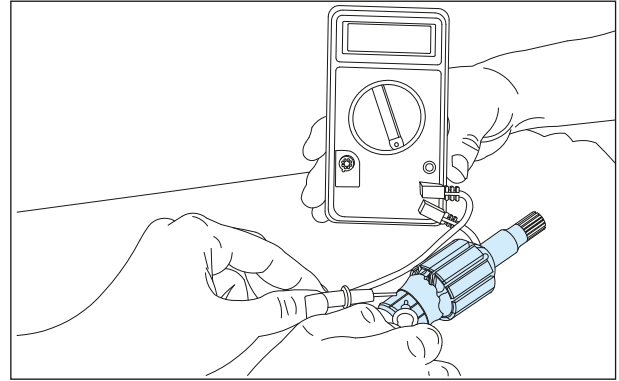

Fig. 6.45
- Connect the test probes of the multimeter tester between all the commutator segments and check the continuity. It should have continuity, otherwise the armature coil assembly is defective. (Fig. 6.45)